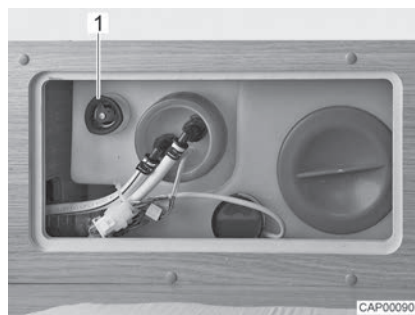

Fig. 93 Water tank with rotary handle
- Turn the rotary handle (Fig. 93,1) on the water tank in a clockwise direction as far as it will go.
- Turn the rotary handle (Fig. 93,1) on the water tank in an anticlockwise direction as far as it will go. Excess water will drain away leaving approx. 20 litres in the tank.